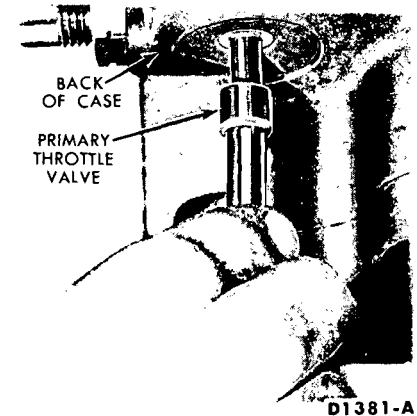

FIG. 36—Removing or Installing Primary Throttle Valve
3. From the vacuum unit hole in the case, remove the primary throttle valve (Fig. 36).